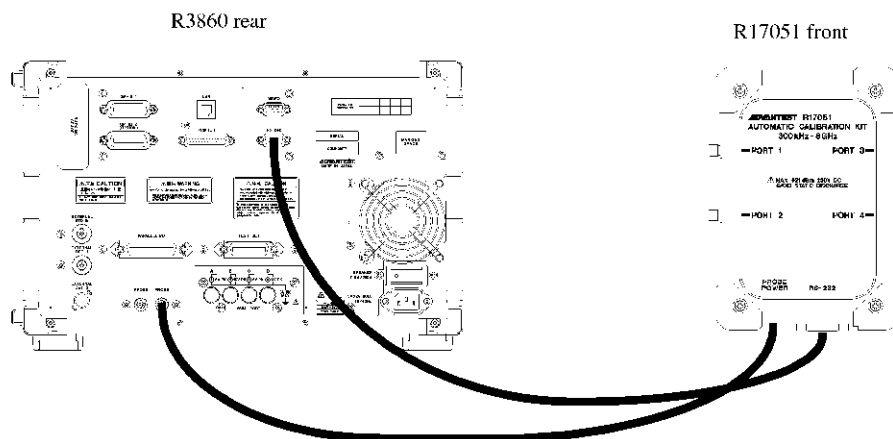

Figure 2-3 Connecting the Control Cable
1. Connect the control cable between the instrument and RF component analyzer. There are two Probe POWER connectors on the RF component analyzer. Either of them can be used (see Figure 2-3).